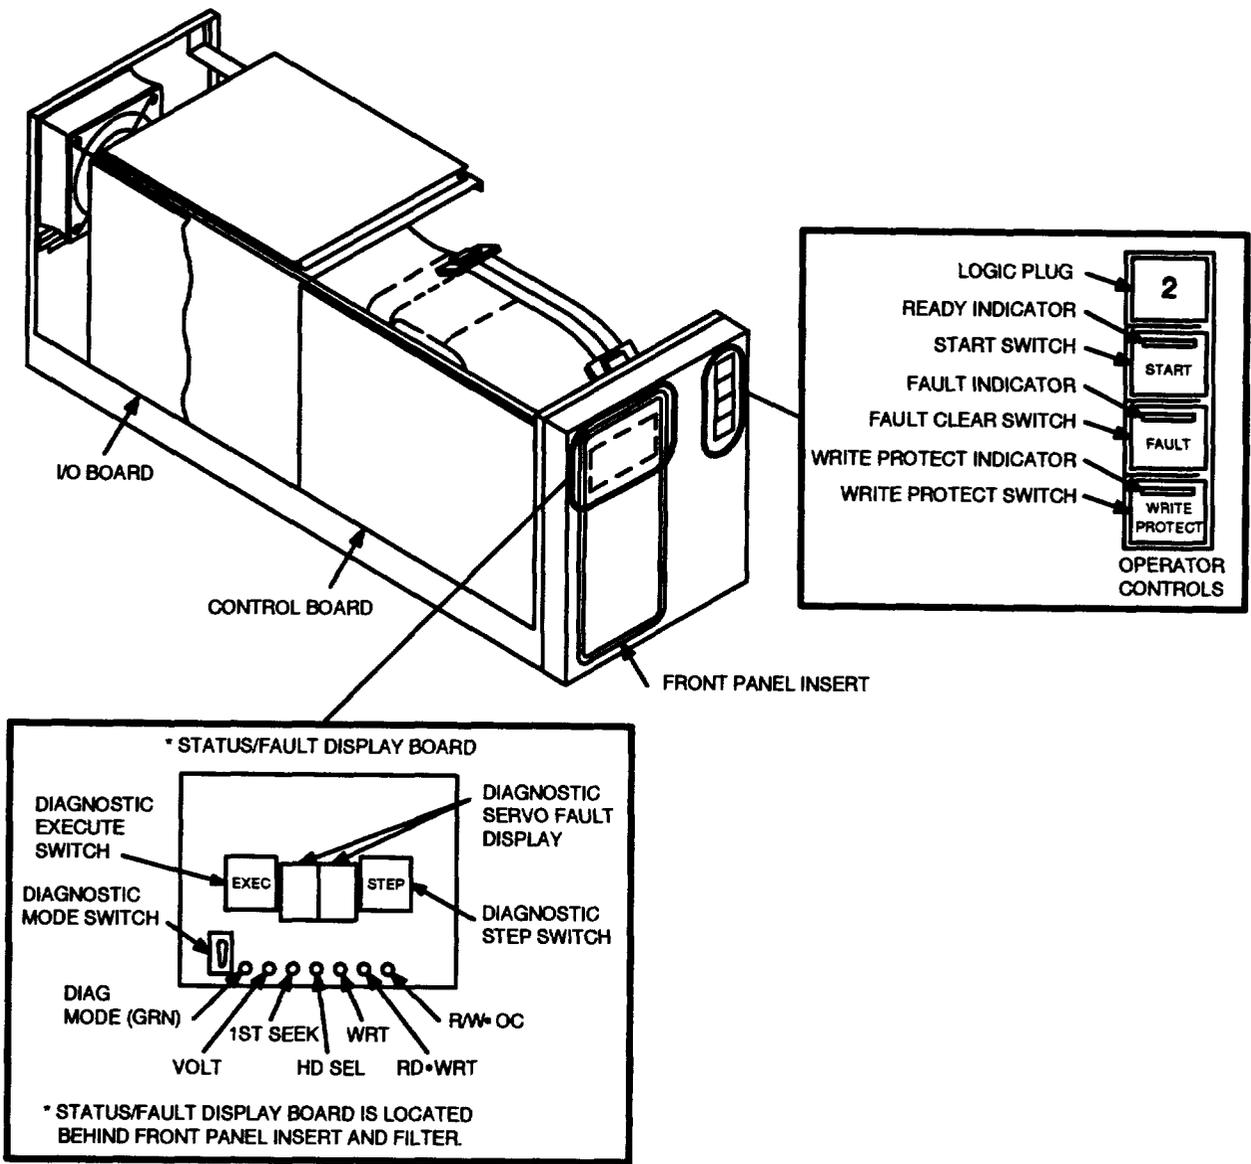

Figure 5. FSD Switches and Indicators
2.16 The front panel contains the switches and indicators which allows an operator to control and monitor the basic operations of the disk drive. The panel contains a slot for a logic (ID) plug, a START/STOP switch/indicator, a FAULT/CLEAR switch/indicator, a WRITE PROTECT switch/indicator, and a STATUS/FAULT DISPLAY board (located behind the front panel insert and filter). See Figure 5 and Table A. The front panel insert also provides an open inlet for air flow to circulate across the electrical components. The opening is protected with an air filter for trapping dust particles traveling through the frame assembly.